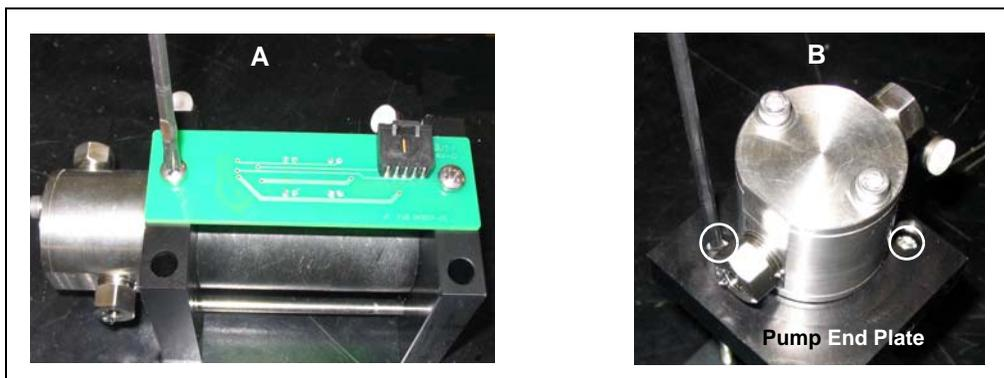

Figure 5-13. Removing the Pump PC Board and End Plate Bolts
1. Remove the PC board from the side of the pump (see Figure 5-13, view A).
2. Loosen the two bolts that hold the two end plates together (see Figure 5-13, view B).